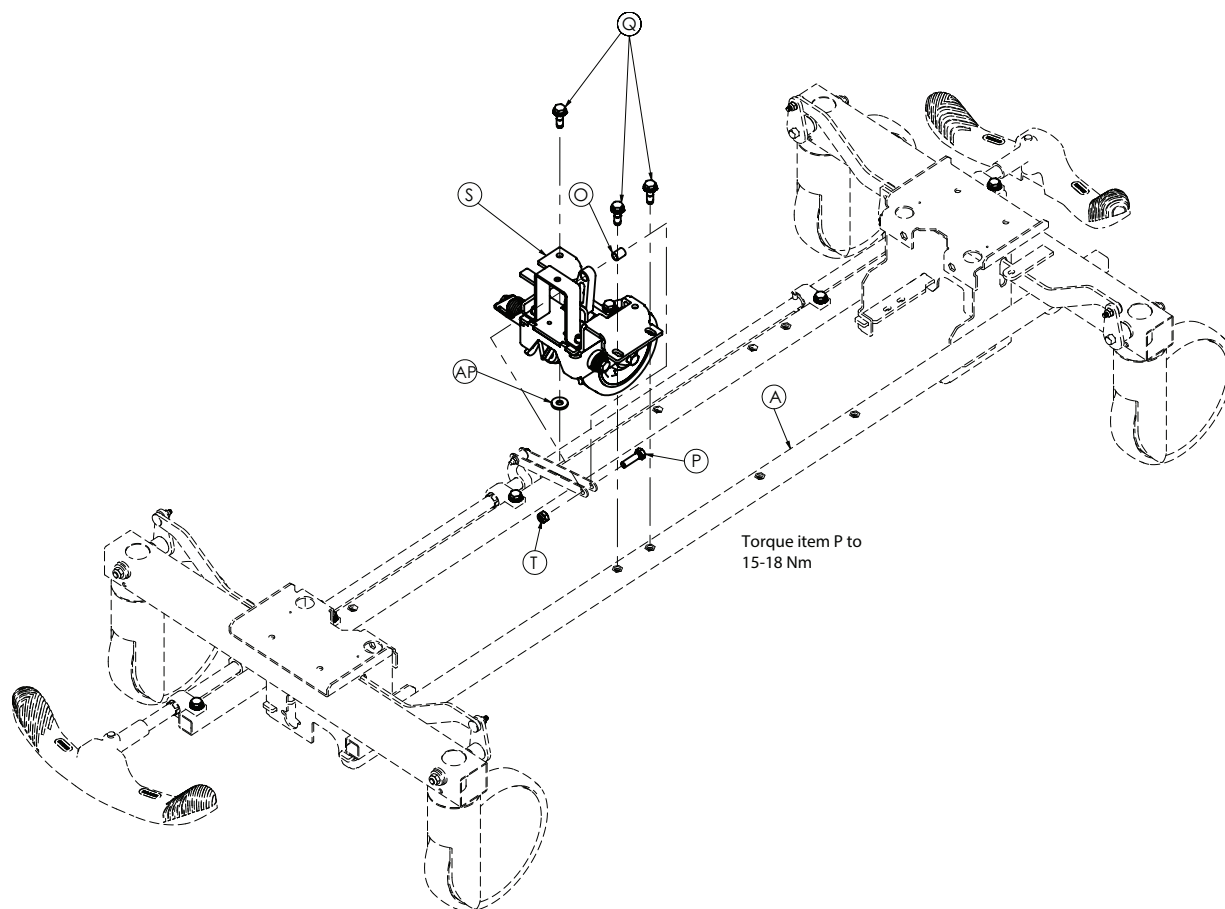

Figure 9 – Fifth wheel assembly replacement
2. Use a 13 mm wrench, 13 mm socket wrench, and 3/8" drive ratchet to remove and save the hex head screw (P), hex nut (T), and cam bearing (O) that secure the fifth wheel drive link assembly to the brake rod assembly (Figure 9).
3. Use a 13 mm socket wrench and 3/8" drive ratchet to remove and save the three hex head bolts (Q) and washer (AP) that secure the fifth wheel assembly (S) to the base frame Figure 9.